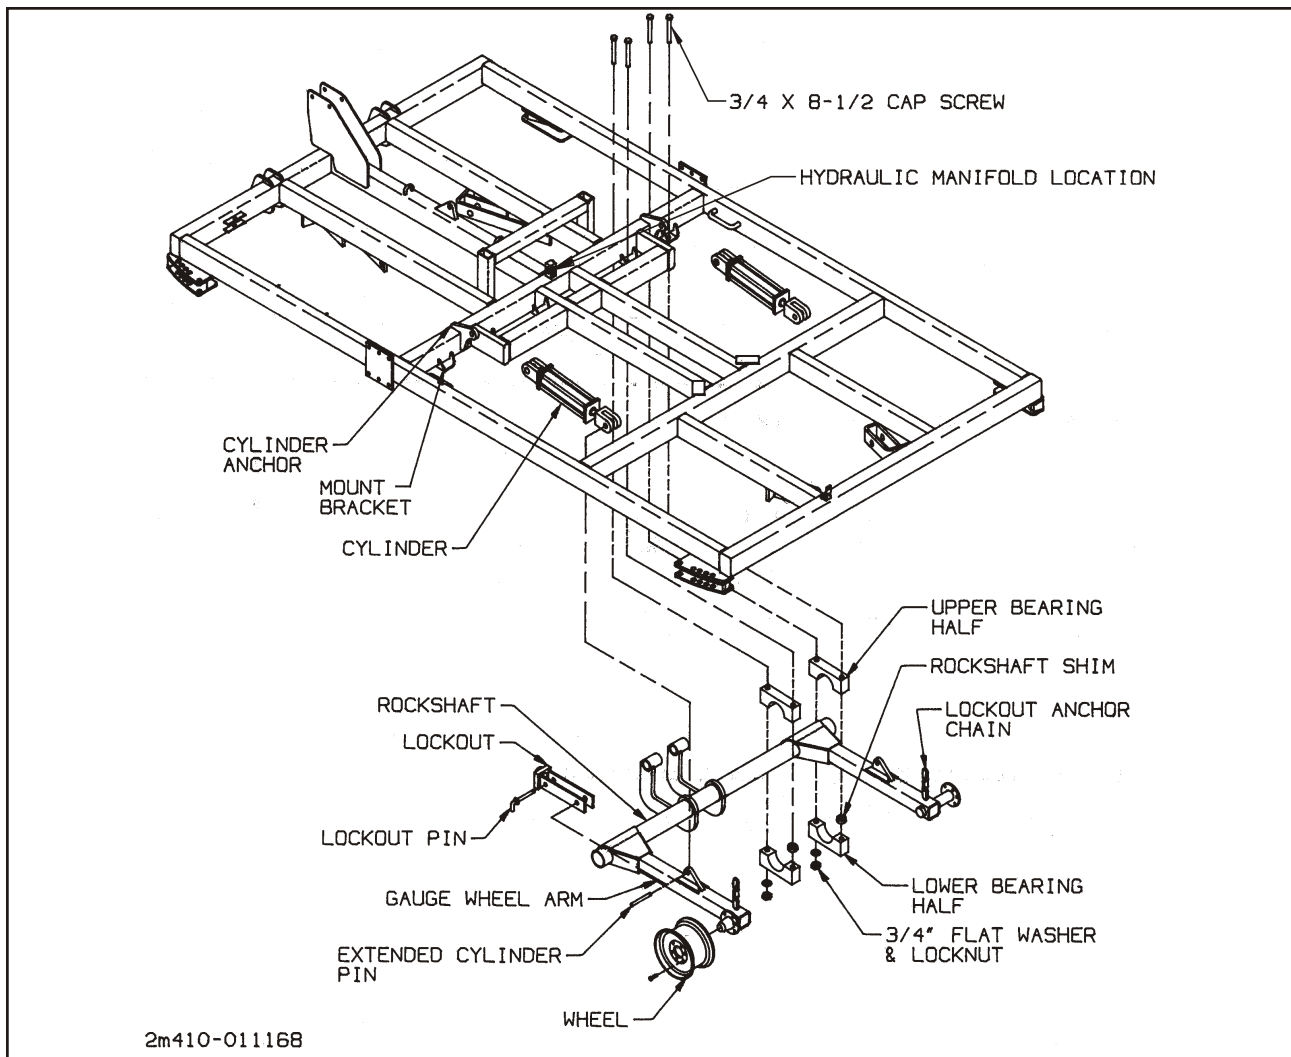

Figure 3-2 2225 Rockshaft Installation
SEE FIGURE 3-2 FOR PART NAMES.
- 3-3.8** Position the lockout assemblies above the gauge wheel arms and the rod ends of the cylinders (**See Figures 3-2 and 3-3**). The open end of the lockouts should be over the gauge wheel arms with the U-shaped cutout on the opposite end facing upwards.
3-5.1 Install the hydraulic manifold on the frame and secure with 1/2" x 3-1/2" cap screws and locking nuts. The manifold mount is at the center of the frame above the rock-shaft (**See Figure 3-2**).